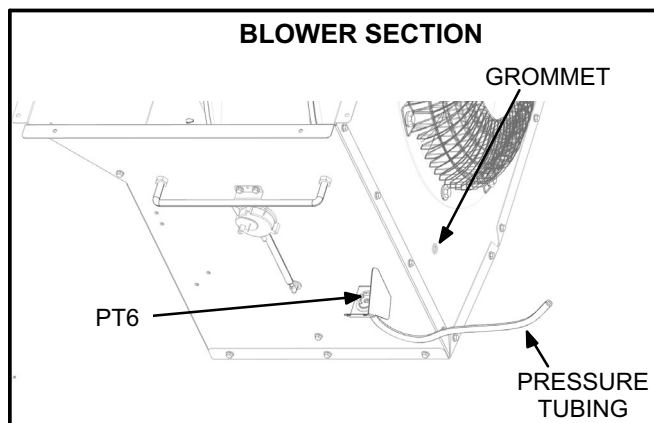

FIGURE 4
- 9- Disconnect the pressure tube from the barb fitting on the orifice ring. The other end of the tubing remains connected to PT6 sensor. Route the disconnected end through the grommet to the outside of the housing. See figure 4.